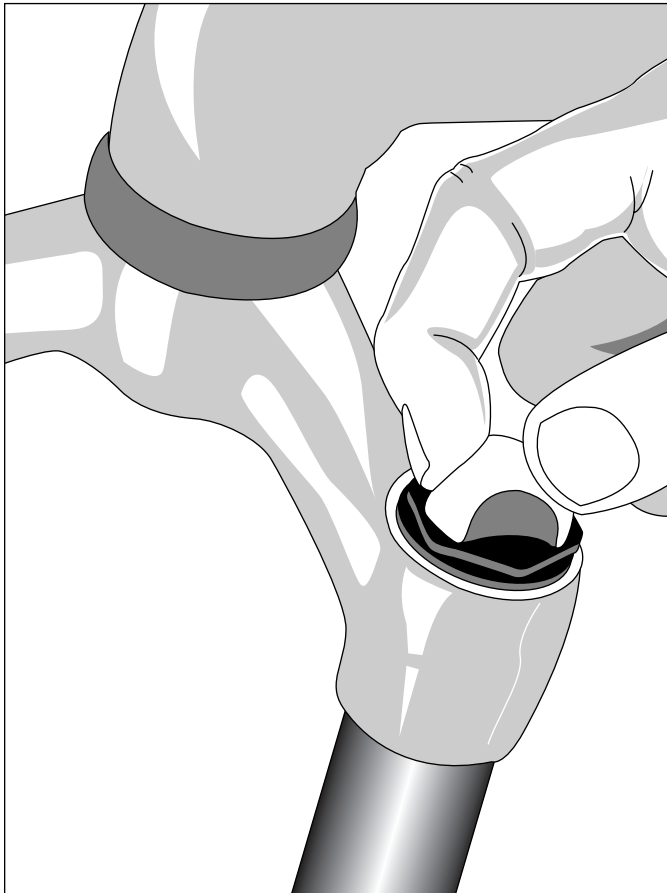

Figure 12-8:
5. **Adjust the spring tension in front by rotating your screw knob on the top of your fork (as shown in Figure 12-8). To reduce tension and increase sag, turn the knob counterclockwise one turn.**
6. **Adjust the spring tension in front by rotating your screw knob on the top of your fork (refer to Figure 12-8). To increase tension and reduce sag, turn the knob clockwise one turn.**